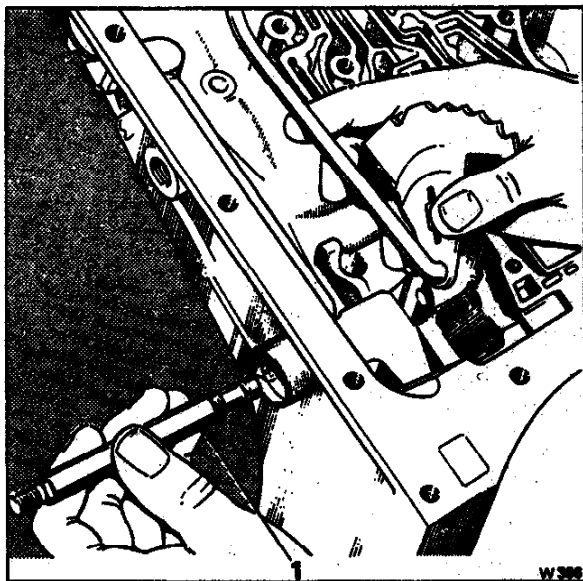

**Fig. T90 Fitting the parking pawl and shaft**
1. Fit the parking pawl with the tooth towards the centre of the transmission, then fit the parking pawl shaft (see Fig. T90).